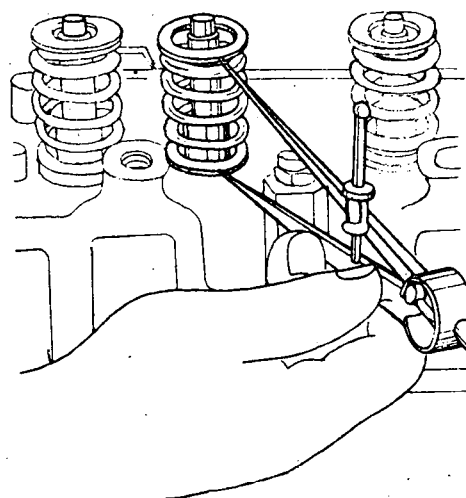

Fig. 11
- Check the height of the valves (fig. 11).